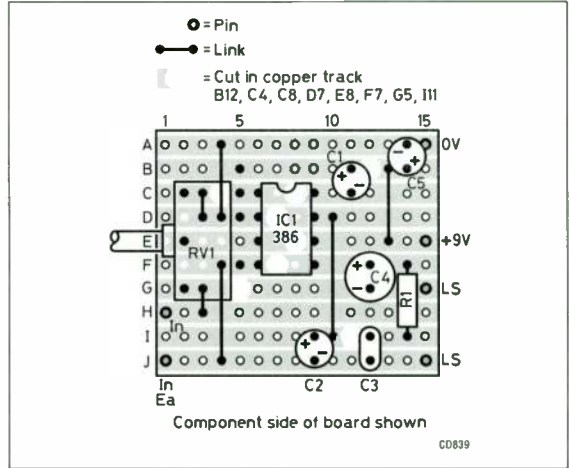
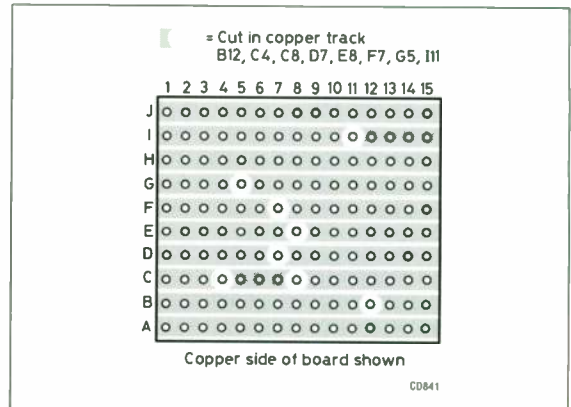

Fig 3.29. Layout of components
Fig 3.31. Where to cut the tracks – use this diagram if the cuts are to be made before components are added
For those constructors who have not previously used Veroboard a few useful tips are included. Unlike a PCB, it is not always easy to trace the circuit because the copper strips are parallel to one another. Connections from one strip to another are made using 'jumpers' on the component side of the board with the result that reference has to be made continually from one side to the other. Also, it is sometimes difficult to transfer the location of components from the layout diagram (shown in Fig 3.29) to the piece of Veroboard.
The following method may help. The copper strips are labelled from top to bottom using the letters 'A', 'B', 'C' etc and the holes from left to right with the numbers '1', '2', '3' etc. Any hole can now be identified by giving the row letter and hole number. For example, in the layout diagram in Fig 3.29 pin 1 of the integrated circuit passes through hole C6, and the +9V supply pin through hole E15.
1. Insert the eight jumpers. These can be made with the off-cuts of resistors or capacitors from this or earlier projects. Carefully bend the pieces of wire into a staple shape. The centre part must be adjusted so that it will exactly span the number of holes indicated in Fig 3.29 and the outside ends at least 4mm long. Insert the jumper into the correct holes from the plain side and ensure that it lies against the board. Bend the ends on the track side outwards a little, just enough to stop the jumper falling out when the board is turned over for soldering. Solder both ends and clip off the excess. Use a thin bit in the soldering iron (1.5mm or 2mm is
- Make the breaks in the copper tracks as indicated by dotted circles in Fig 3.29. It is much easier to do this operation immediately after inserting the terminal pins but if a mistake is made and a break created where a component lead should be soldered, things can only be rectified by considerable invention! Those constructors who wish to make the breaks first can refer to Fig 3.31 which shows the breaks from the track side of the board. To avoid confusion when the board is turned during the cutting process, it would be advisable to start by inserting the terminal pins 0V, +9V and the two marked 'LS'. These pins will allow the board to be placed in the correct position when referring to Fig 3.31. Use a special spot face cutter obtainable from most suppliers of Veroboard – a sharp drill bit about 3mm will do just as well except that it is a little more difficult to use. Apply light pressure to the spot face cutter and a bit more if a drill bit is used. Hold the bit in the fingers and turn in a clockwise direction until the copper strip is removed across the whole width.